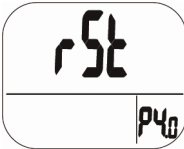

Fig. 16: Reset-mode
- Press ▲ three times to enter P4.0 mode for reverting the meter to default status, see Fig. 16.